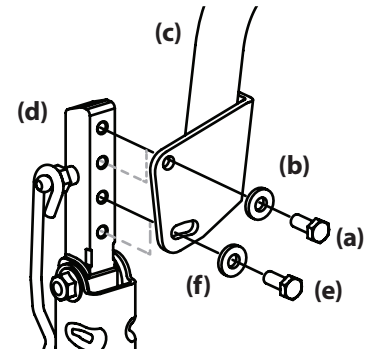

Figure 4-4
- While supporting the drive control lever to keep it from falling, remove the hex screw (e) and flat washer (f) from the bottom of the drive control lever (c) and lower arm (d). Refer to Figure 4-4.
1. If not already loose, loosen the hex screw and rotate the control lever either forward or rearward to the desired position. See Figure 4-4.